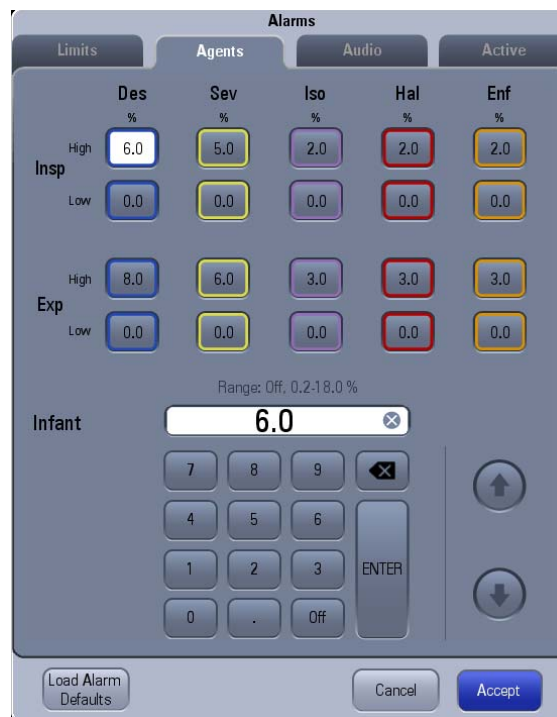

FIGURE 8-3 Agents Tab
NOTE: The AG module (see FIGURE 8-3) is configured with the function of compensating barometric pressure automatically.
2. Select the **Limits** tab (see FIGURE 6-8) or **Agents** tab (see FIGURE 8-3).